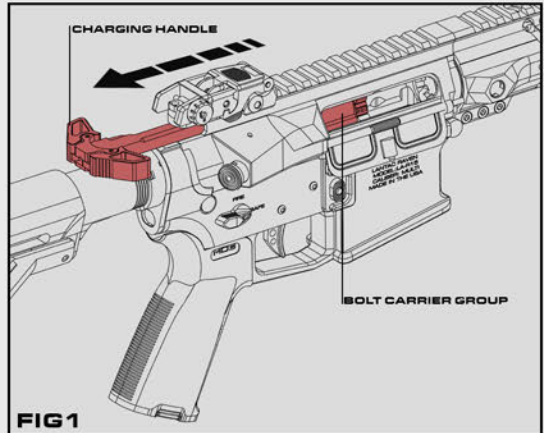

FIG 1
1. MAKE SURE THAT THE RIFLE IS POINTING IN A SAFE DIRECTION WITH A SAFE BACKSTOP. PLACE THE SAFETY SELECTOR LEVER IN THE 'SAFE' POSITION. IF THE SELECTOR WILL NOT GO INTO 'SAFE' THEN THE HAMMER IS FORWARD AND NOT COCKED. IN THIS SITUATION THE FIREARM IS SAFE AND CANNOT FIRE, FIG 1.
2. RETRACT THE BOLT TO ENSURE THAT IT CAN MOVE FREELY AND THERE IS NO BINDING BETWEEN THE GAS KEY AND GAS TUBE. THE BOLT CARRIER GROUP SHOULD MOVE FREELY WITHIN THE UPPER RECEIVER, FIG 1.